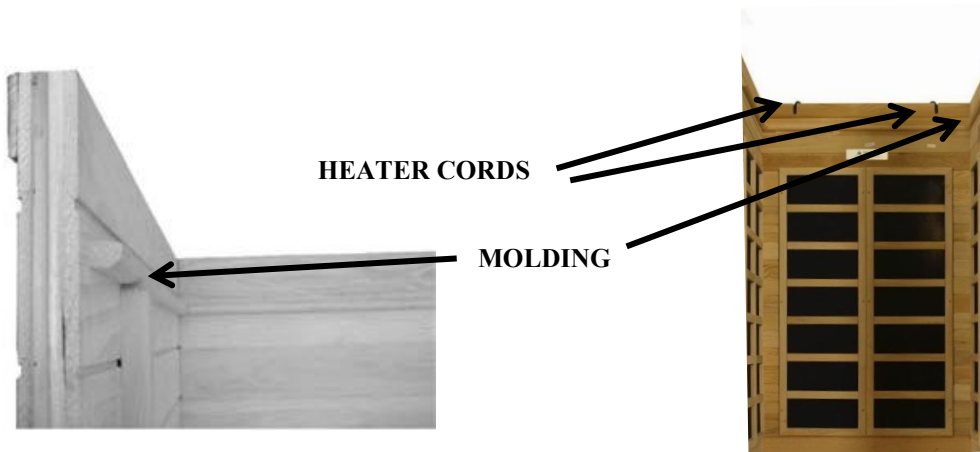

Figure 6
The (4) panels are in the upright position when the moldings are at the top. The moldings will face inward. (see Figure 6)